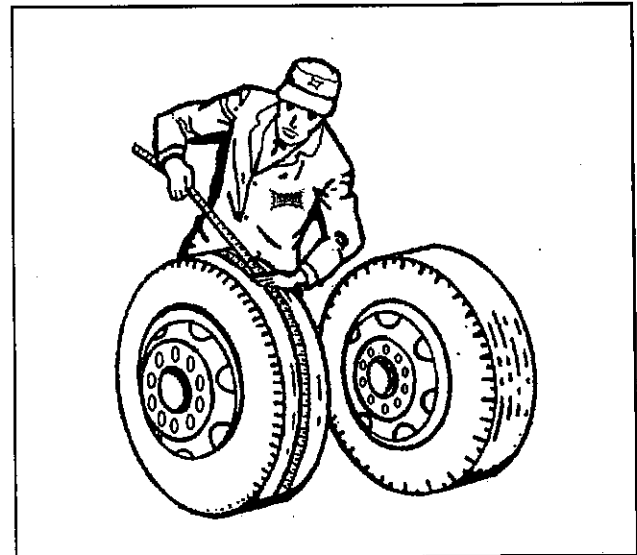

Figure 4-10 Tape Measuring Method
**a. Tape Measuring Method.** Measure around each tire on the tread surface. A maximum difference of  $3/4$ " is allowed between the two mating tires of a dual (See Figure 4-10).